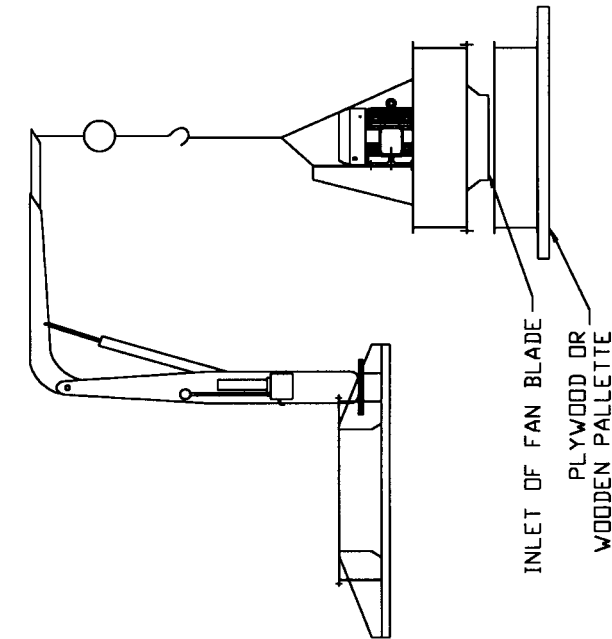

FIGURE 6
- 12) Lower acoustical silencer nozzle onto plywood or a wooden pallet. (Figure 6)
- 13) Unbolt the housing flange to the vane section. (Figure 6)
- 14) Raise the fan once more, pull the housing away and lower the fan back down. The fan is now resting on the inlet of the fan blade. (Figure 6)